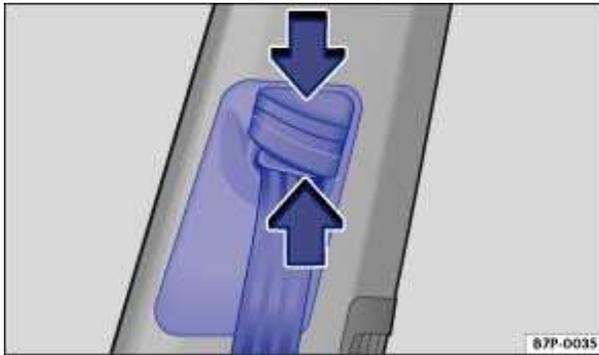

Fig. 67 Next to the front seats: manual safety belt height adjuster.
- Press and hold the safety belt attachment ⇒ fig. 67.